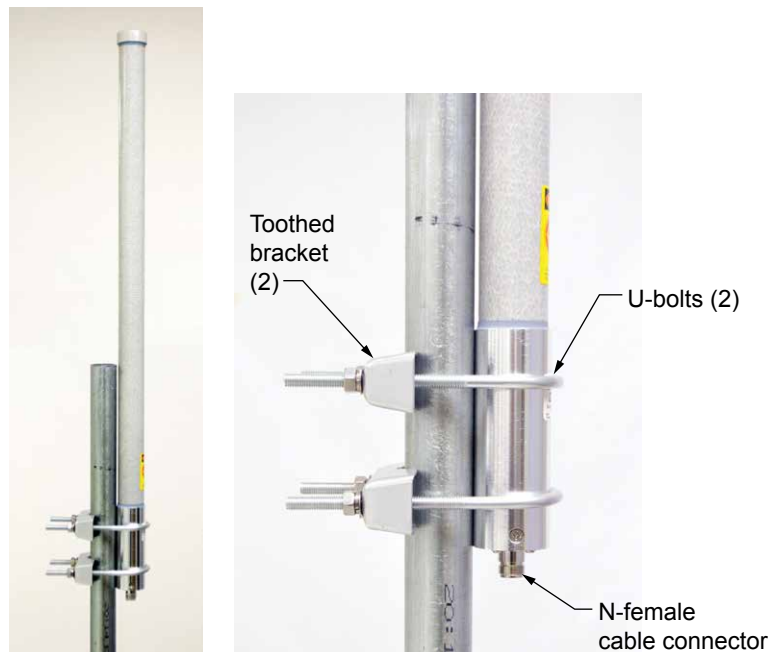

Figure 2.10 - Standard pole mount bracket (fits poles with an outside diameter of 2 inches or less)
- **Direct-mount to an orifice or cone type DP meter.** The integral multi-variable sensor may be connected to the pressure taps with stabilizers or a heavy wall nipple with adapter flanges, and a 5-valve manifold (Figure 2.10, pg. 34). A bottom-port MVT is recommended for gas measurement; a side-mount MVT is recommended for liquid or steam measurement.
To install the antenna, reference Figure 2.10, pg. 34 while following the instructions below: